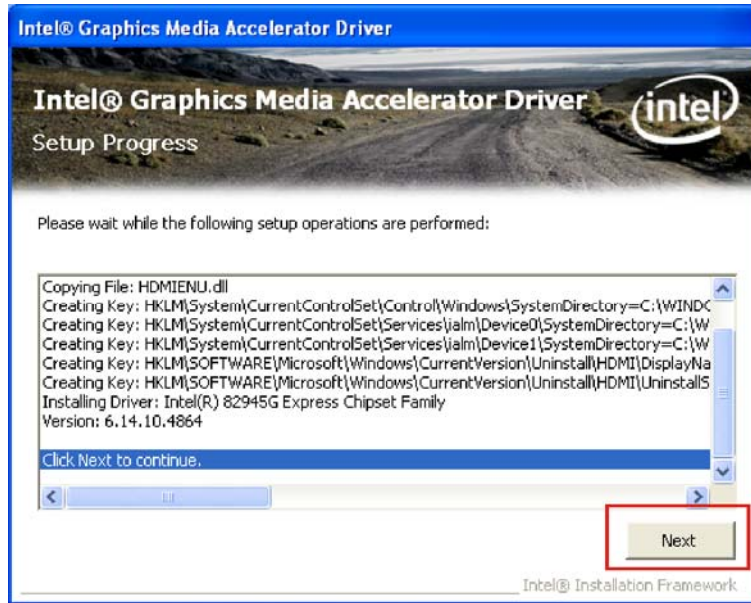

Figure 7-14: VGA Driver Installing
Step 9: The VGA drivers are setup (Figure 7-14).